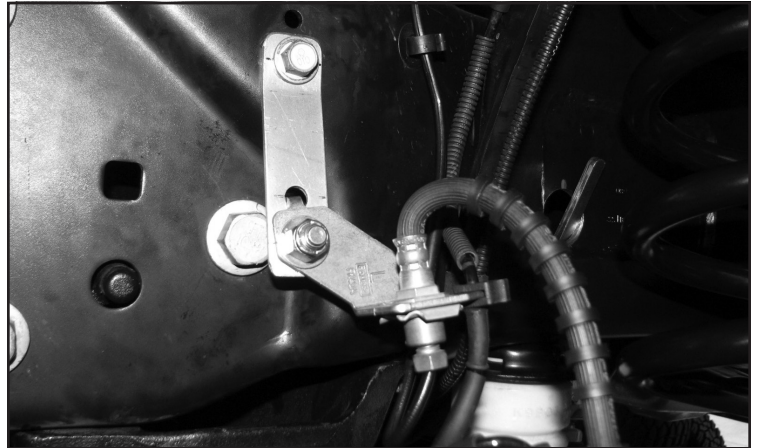

FIGURE 26 - STEP 26
26. **(DRIVER SIDE)** Install FT30659 (Brake line bracket) to the factory brake line tab using the supplied 3/8" hardware. Next, install the bracket to the frame using the factory hardware. Torque hardware to 52 ft-lbs. **SEE FIGURE 26**